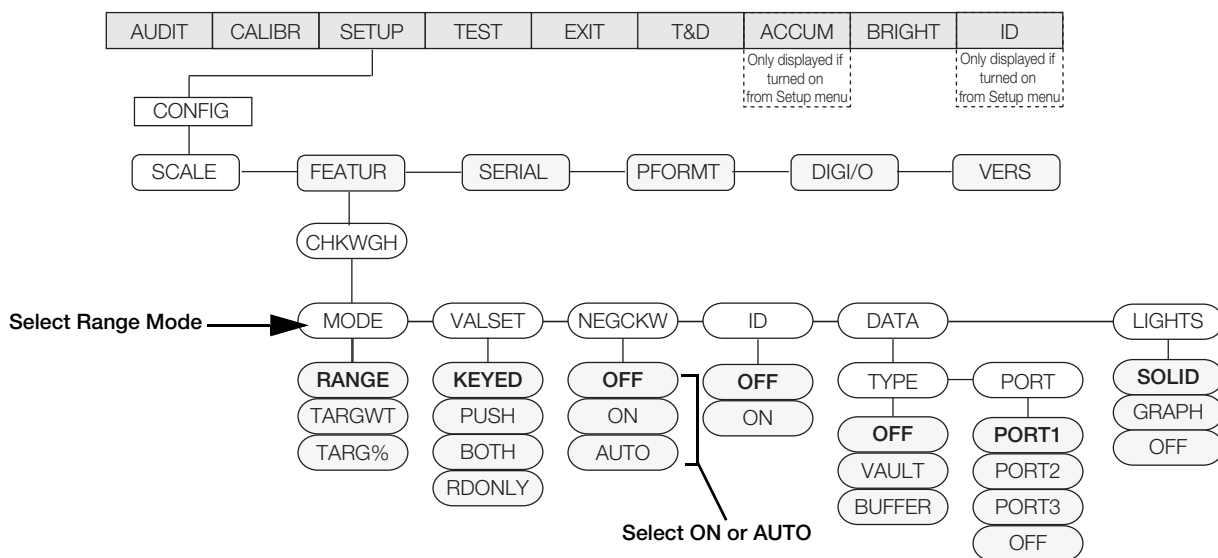

Figure 5-7. CHKWGH Menu
1. Ensure *Range* is selected under *Mode* (See Figure 5-7).